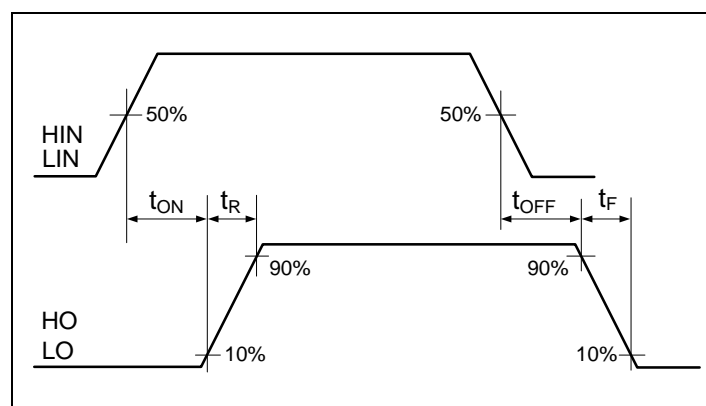
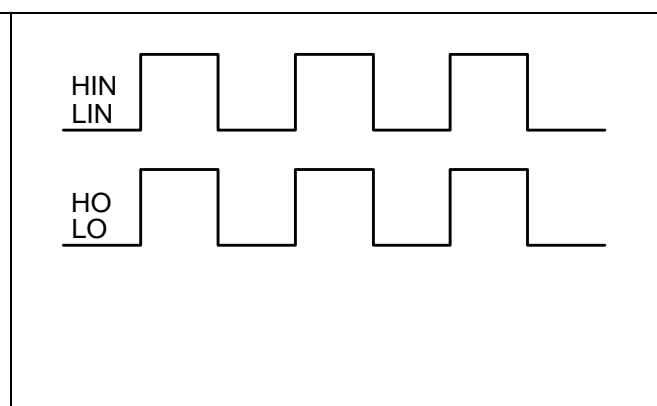

Figure 6 Switching timing diagram
Figure 7 Input/output logic diagram
The relationships between the input and output signals of the 2ED2106 (4) S06F (J) are illustrated below in Figure 6 and Figure 7. From these figures, we can see the definitions of several timing parameters (i.e. t_{ON} , t_{OFF} , t_R , and t_F) associated with this device.